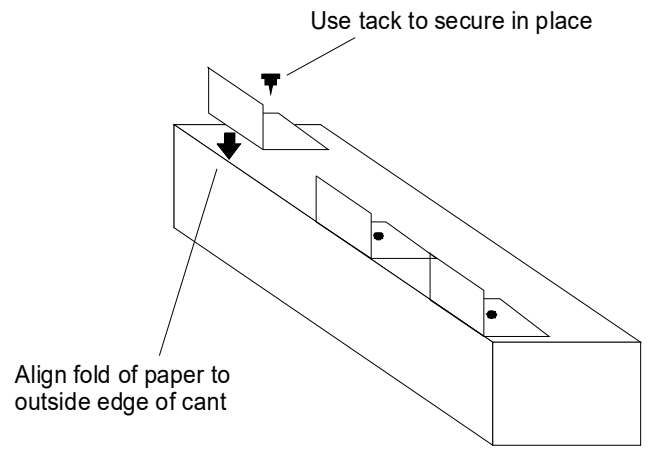

FIG. 2-3
- g. Place an object on top of the cant so that the laser will be visible above the cant. (Folded paper is used in the example in FIG. 2-3.)